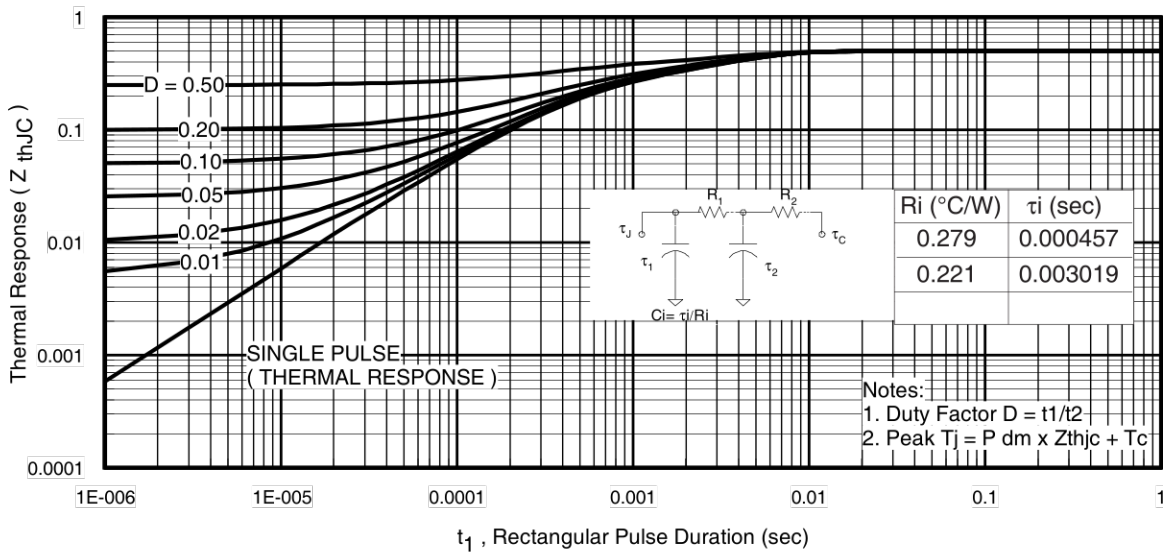
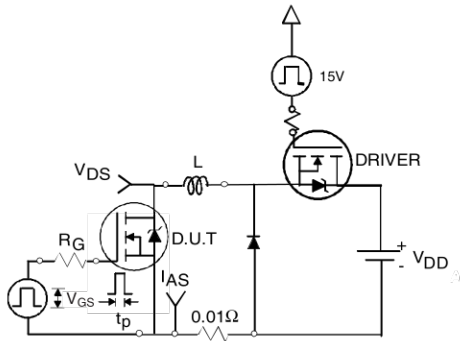

Fig 11. Maximum Effective Transient Thermal Impedance, Junction-to-Case
Fig 12a. Unclamped Inductive Test Circuit
- ① Repetitive rating; pulse width limited by max. junction temperature. (See fig. 11).
- ② Limited by T_{Jmax} , starting $T_J = 25^\circ\text{C}$, $L = 0.095\text{mH}$, $R_G = 25\Omega$, $I_{AS} = 75A$, $V_{GS} = 10V$. Part not recommended for use above this value.
- ③ $I_{SD} \leq 75A$, $di/dt \leq 340A/\mu s$, $V_{DD} \leq V_{(BR)DSS}$, $T_J \leq 175^\circ\text{C}$.
- ④ Pulse width $\leq 1.0\text{ms}$; duty cycle $\leq 2\%$.
- ⑤ $C_{oss\ eff.}$ is a fixed capacitance that gives the same charging time as C_{oss} while V_{DS} is rising from 0 to 80% V_{DS} .
- ⑥ Limited by T_{Jmax} , see Fig.12a, 12b, 15, 16 for typical repetitive avalanche performance.
- ⑦ This value determined from sample failure population. 100% tested to this value in production.
- ⑧ This is applied to D²Pak, when mounted on 1" square PCB (FR-4 or G-10 Material). For recommended footprint and soldering techniques refer to application note #AN-994.
- ⑨ R_{θ} is measured at T_J of approximately 90°C .
- ⑩ TO-220 device will have an R_{th} of 0.45°C/W .
3. Equation below based on circuit and waveforms shown in Figures 12a, 12b.
$Z_{thJC}(D, t_{av})$ = Transient thermal resistance, see figure 11)